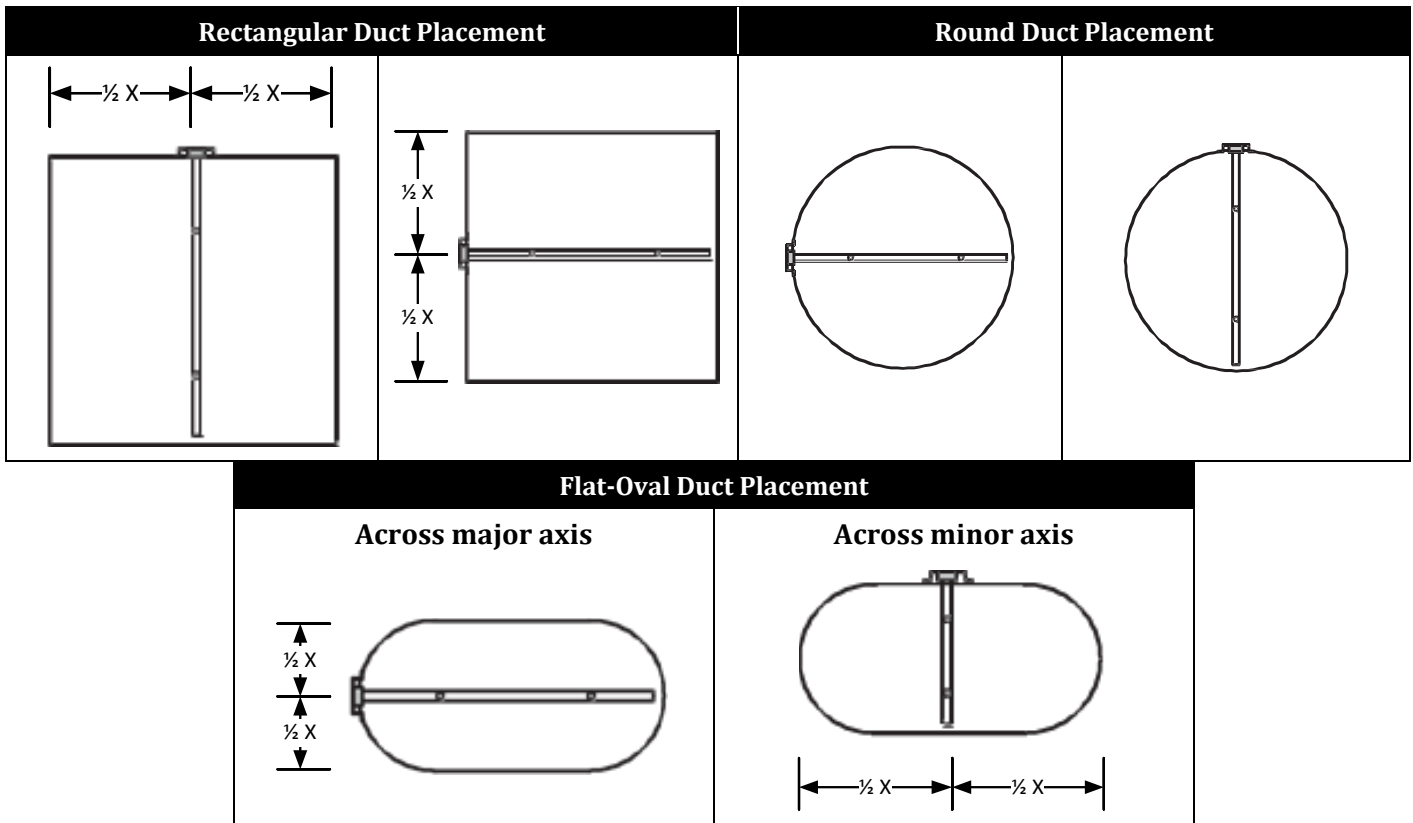
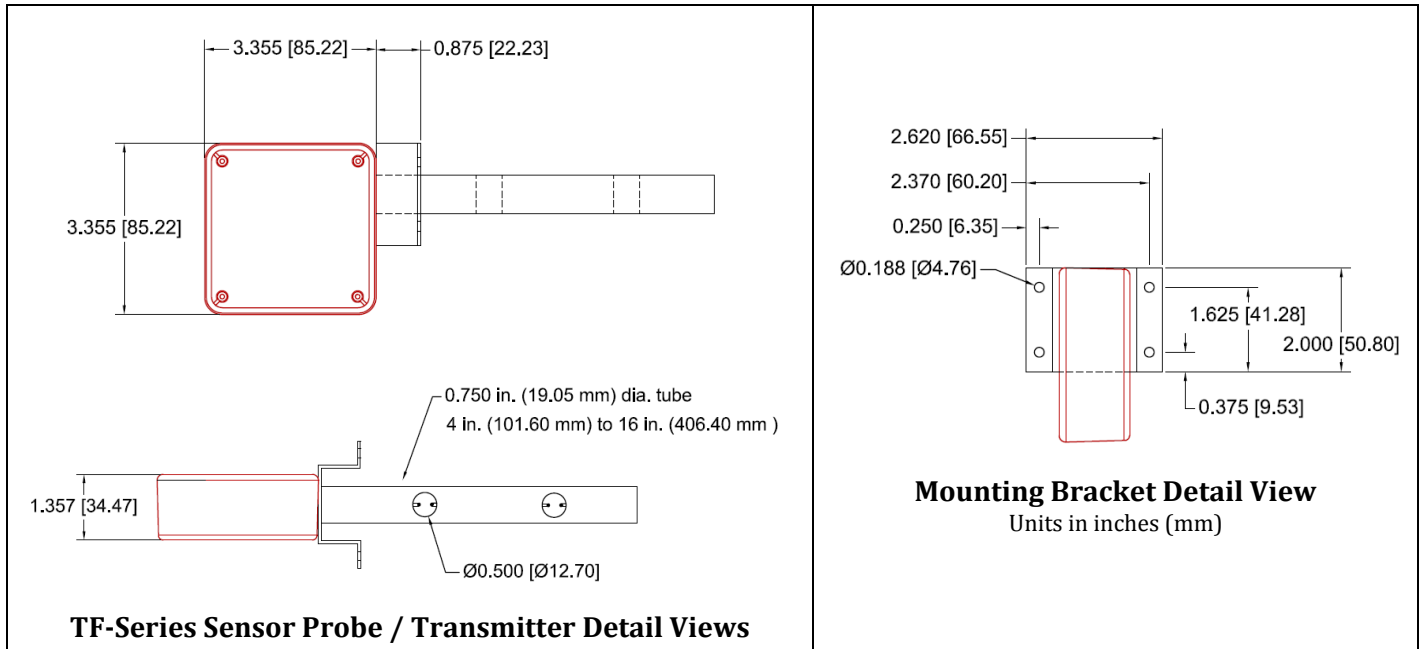

Figure 3. TF-Series Installation Flow Station Applications and Orientation
Figure 4. TF-Series Flow Station Installation Dimensions
3. Locate and mark the point on the duct or VAV box where the probe will be inserted using the previous Minimum Placement Guidelines section of this document. Refer to Figure 3 and Figure 4 for TF-Series Flow Station dimensions and probe orientation.